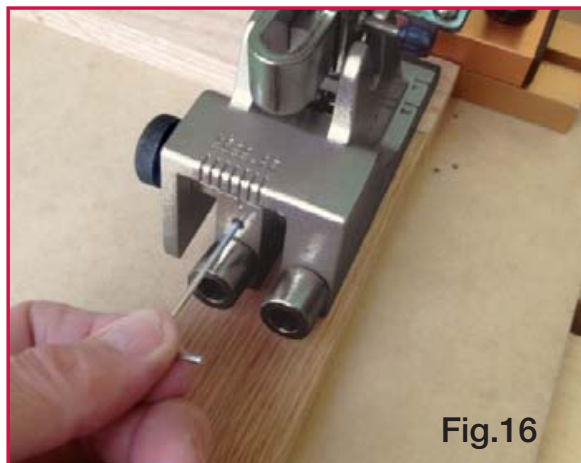

Fig.16
**NOTE:** If the face frame sections will be slotted to receive an insert panel, mark the depth of this groove on the face of the rail and center the guides on the remaining wood width. **(Fig 15)** This will ensure that the pocket holes maintain an adequate distance from the groove and the rail's outer edge. Secure the pocket hole guide using the provided allen wrench. **(Fig 16)**